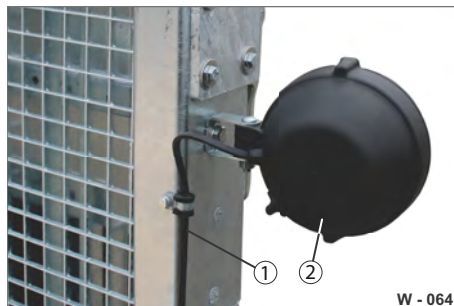

Fig. 64 Working light, from the rear
- ▶ Insert the light lens - make sure the housing does not have any leaks (Fig. 64/2).